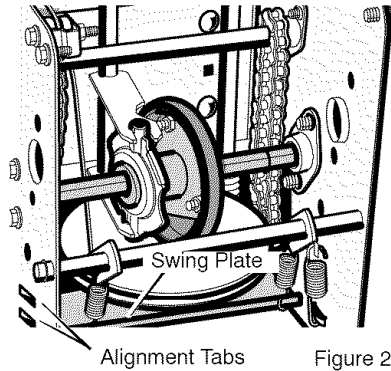

Figure 22
**plate** is properly secured (see Figure 22).